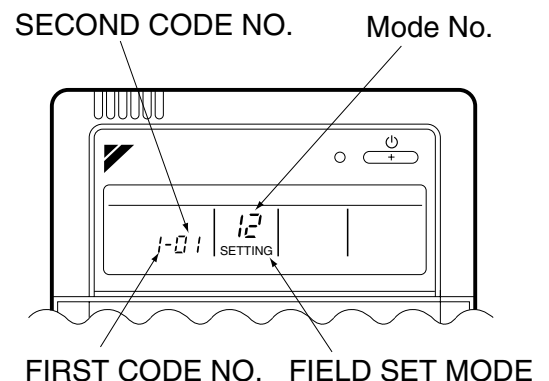

Fig. 29
- When in the field set mode, select mode No. 12, then set the first code (switch) No. to “1”. Then set second code (position) No. to “01” for FORCED OFF and “02” for ON/OFF OPERATION. (FORCED OFF at factory set) **(Refer to Fig. 29)**